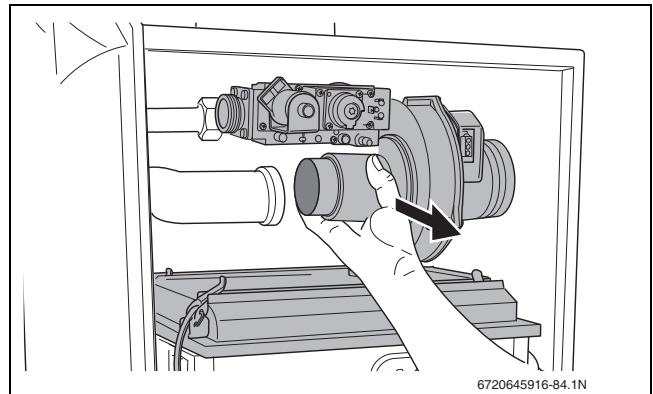

Fig. 87 Removing the burner cover with the gas/air unit
- Remove the burner cover with the gas/air unit (→ fig. 87).